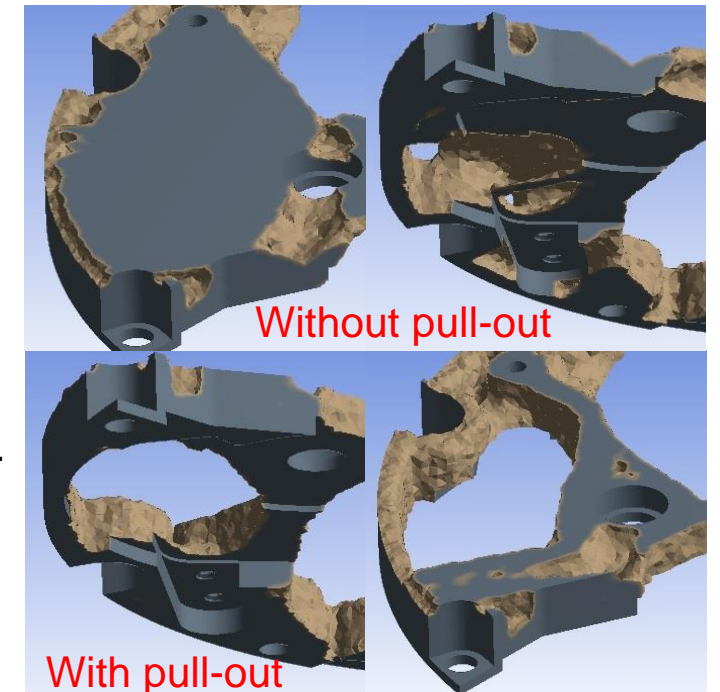

Fig. 1 : Pull-out direction
- Use topology optimization options to fit manufacturing constraints and to enhance aesthetics (Fig. 1)